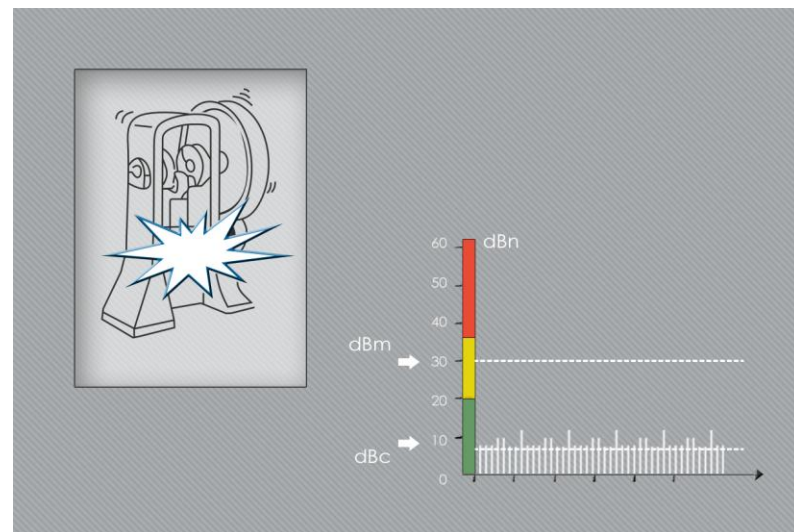

Figure 4-13. Cyclic shock pulses.
e) Cyclic shock pulses (Figure 4-13).